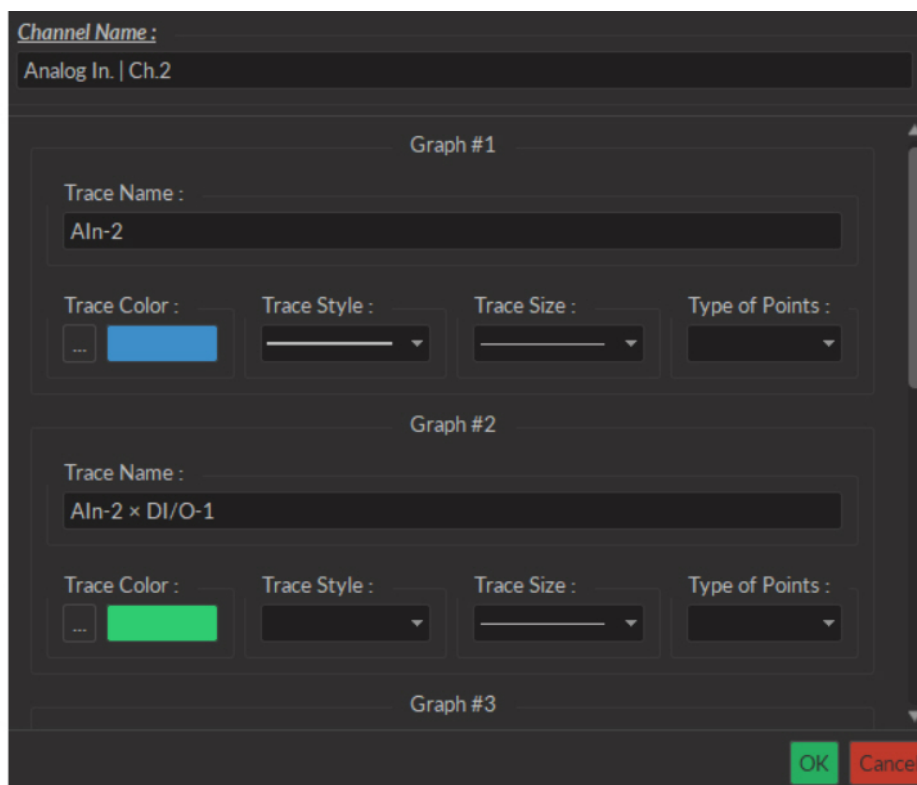

Figure 3.36: Graphs Window
- The **Channel Name** (Fig. 3.36) is indicated in the upper left.
- The **Trace # X** box (Fig. 3.36) (where **X** is the number of the trace) show the visual options available for a single trace on the graph. A trace box appears for each trace on the graph.